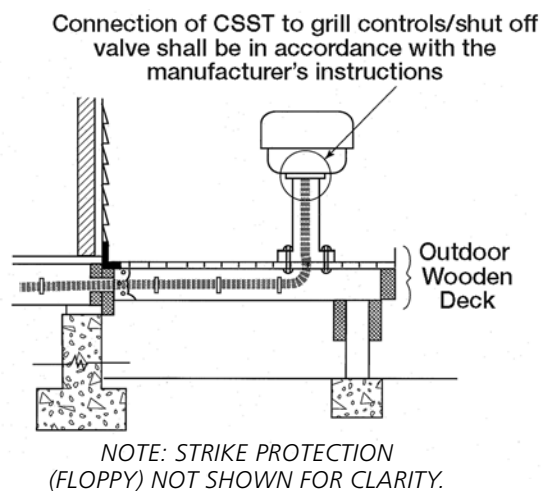

Fig. 4-62
- b) Permanently mounted grills located on decks (Fig. 4-62) shall be connected to the CSST system as shown in the figure and in accordance with the manufacturer's instructions. The outdoor portion of the CSST run shall be supported against the side of any of the inside deck joists.